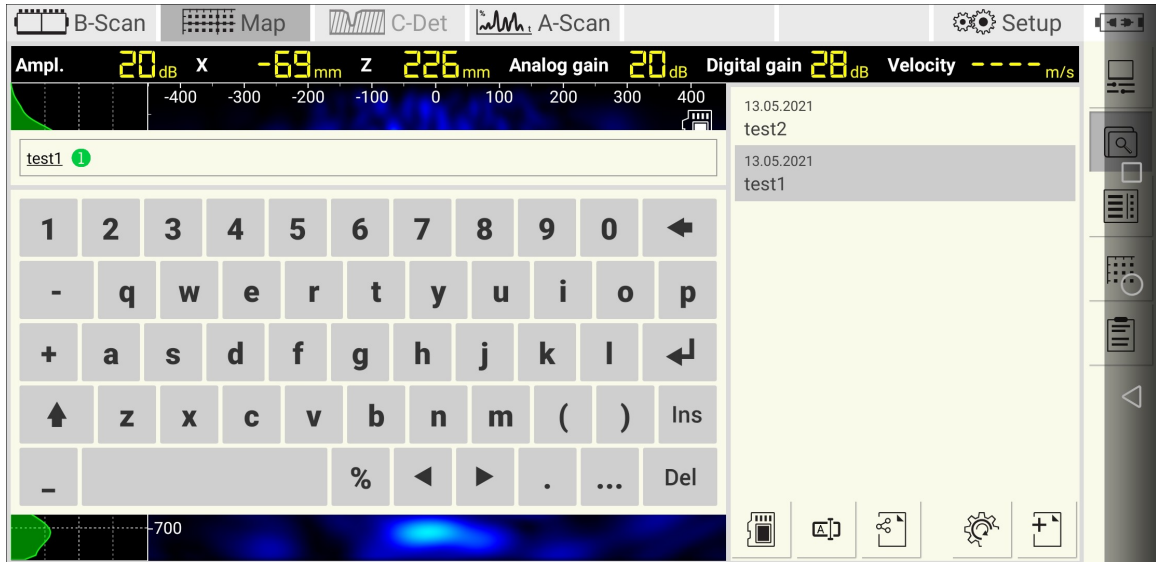

Figure 6: Saving dialog keyboard
Press the button  to save the current data and parameters. After pressing the button the keyboard  appears, Figure 6. Edit the name using the keyboard.
- Keep attention that the crack is located between the fourth and fifth row of transducers, **Figure 6**